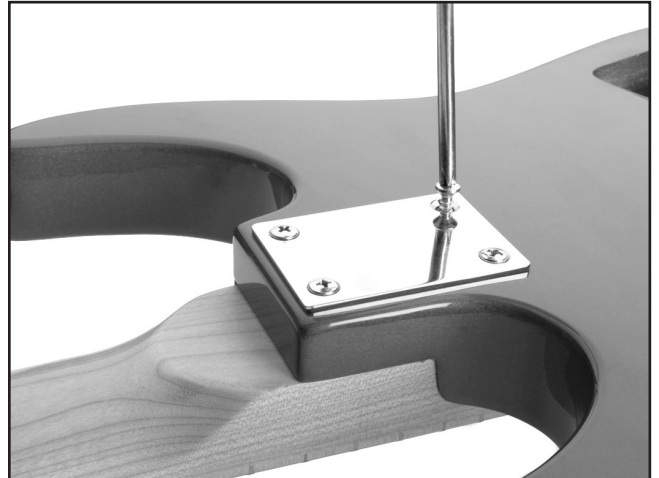

Figure 10. Neckplate installation.
2. Place the neckplate over the neck pocket holes and thread four #7 x 1¼" silver screws (**Figure 10**) through the guitar into the neck. DO NOT use glue, since you may want to remove the neck for maintenance and tune-ups.